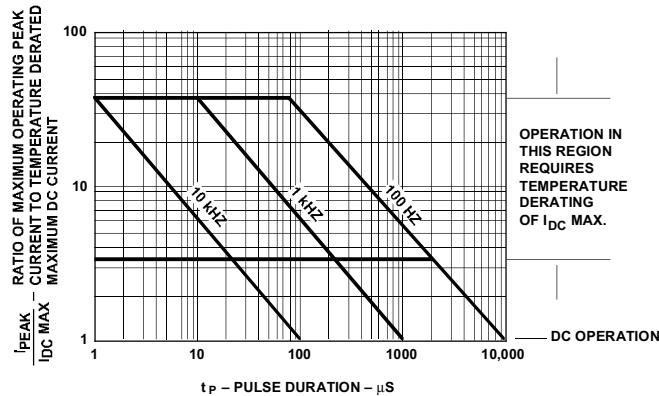

Figure 7. Maximum Allowed Peak Current vs. Pulse Duration – HER, Yellow.
- 5. See Figure 7 to establish pulsed conditions.